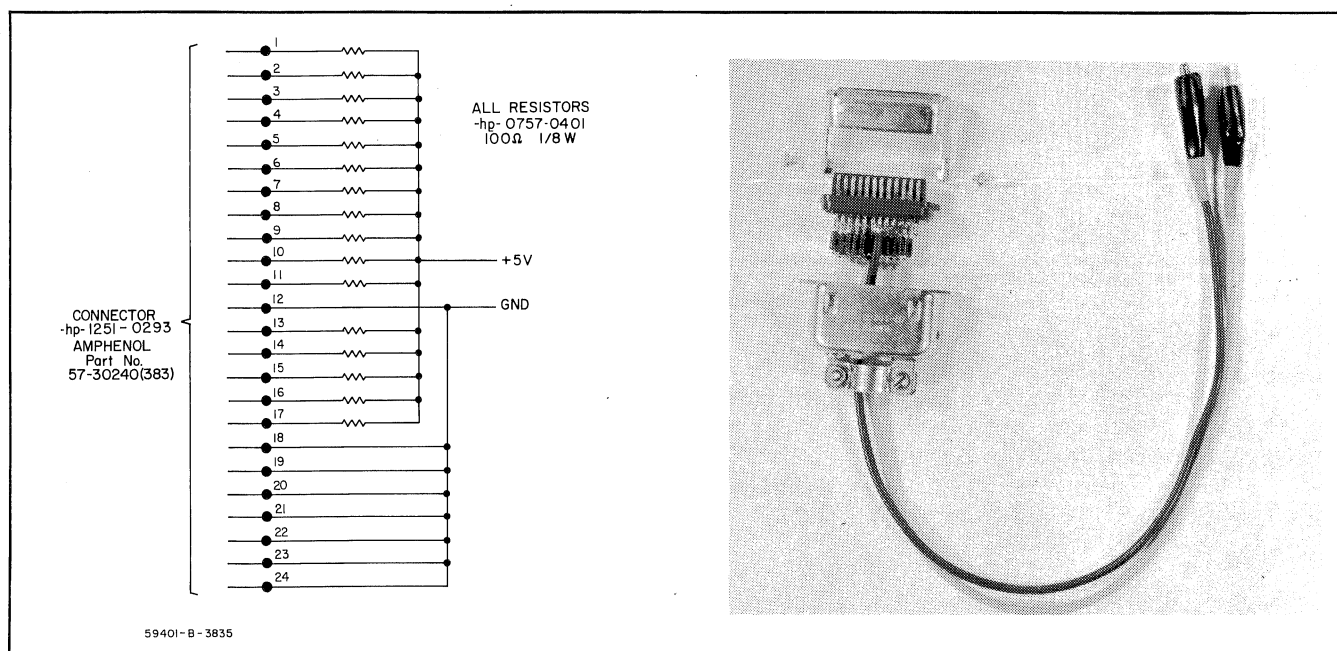

Figure 4-1. Test Load Construction.
Test Load, See Figure 4-1
- e. Connect the Test Load, described in Figure 4-1, to the rear panel "HP-IB" connector. Connect the Test Load ground lead to the negative output of the Power Supply and the + 5 lead to the positive output.
- e. Connect the Test Load described in Figure 4-1, to the rear panel "HP-IB" connector. Connect the Test Load ground lead to the negative output of the Power Supply and the +5 lead to the positive output.